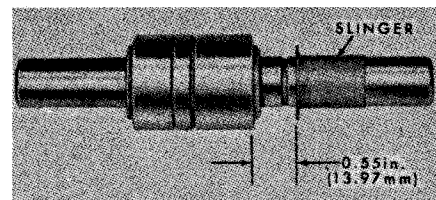
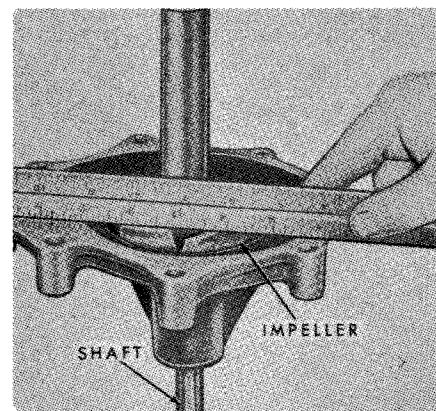
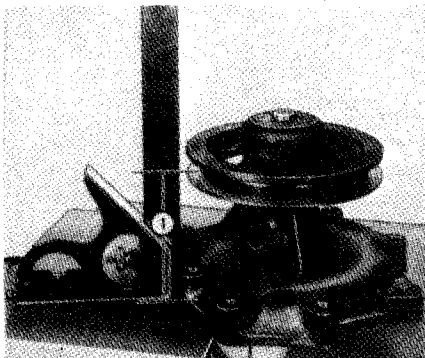

Fig. 124—Press new slinger onto shaft so that distance from edge of bearing outer race to slinger is 0.55 inch.
Fig. 125—Press impeller onto shaft with 3/4-inch I.D. pipe so that impeller is flush with rear face of housing.
Fig. 125A—View showing water pump pulley position.
Using a length of 1-5/16-inch I.D. pipe, press new seal into housing. Check to see that flange on water slinger (10) is located 0.55 inch from edge of bearing race as shown in Fig. 124, then press shaft into front of housing until outer bearing race is flush with front end of housing. Using a length of 3/4-inch I.D. pipe, press impeller onto shaft as shown in Fig. 125 so that impeller is flush with rear end of housing. Press pulley onto shaft so that center of belt groove in pulley is 2 1/2 inches from rear face of housing as shown in Fig. 125A, for 8000, 9000, 8600 and 9600 models and 3 1/2 inches for all other models. Install rear cover with new gasket and tighten retaining cap screws to a torque of 18-22 ft.-lbs.